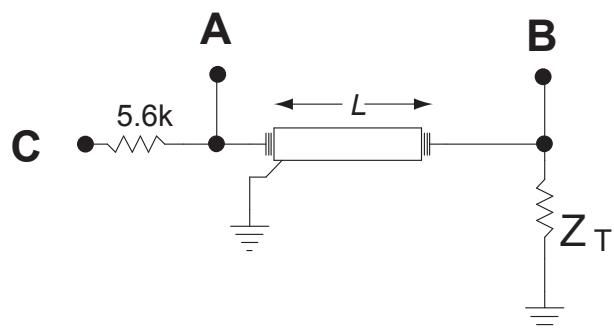

Figure 1:
In this lab, we are going to build the circuit of Figure 1 to investigate propagation characteristics of transmission lines. From reflection measurements, we will determine the propagation speed of waves inside a transmission line, and measure its impedance. Noting Figure 1, consider a transmission line of length L , impedance Z_0 . Let's denote the propagation speed of electromagnetic waves inside the line as u_0 . We supply a voltage pulse with time duration of T at point C of the circuit. When the pulse hits point B, due to impedance mismatch, part of the wave is reflected. This reflected wave encounters a similar phenomenon when it reaches point A. As a result, multiple reflections can be observed at points **A** and **B**.
4. Now make the circuit in Figure 1 to study the reflected pulses and measure the cable attributes.
Verify that your circuit is equivalent to the circuit in Figure 1.